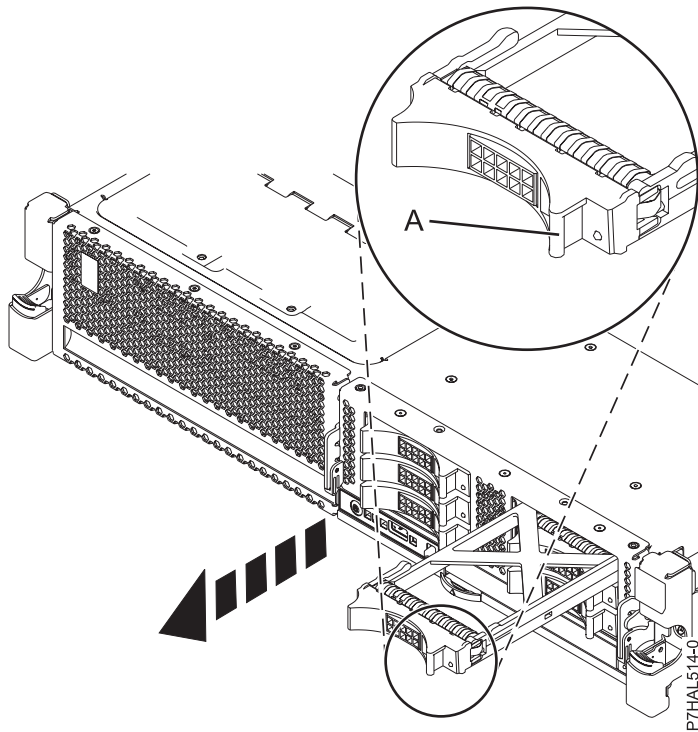

Figure 30. Removing a disk drive filler
3. Hold the filler handle (A) and pull out the disk-drive filler from the slot, as shown in Figure 30 on page 53.